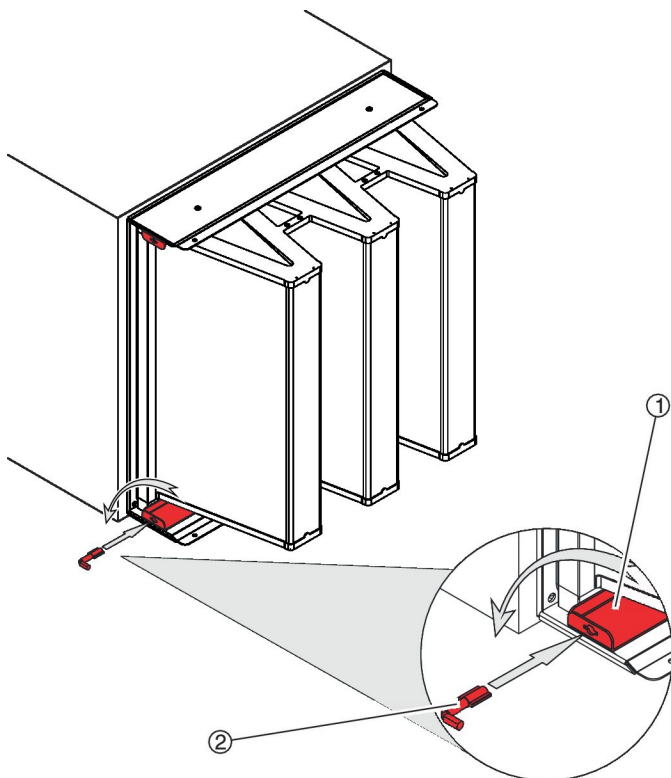

Fig. 57: Inserting the special key
3. ▶ Insert the special key (Fig. 57 /2) into the recess of each clamping rail (Fig. 57 /1) and turn it anti-clockwise by 90°.